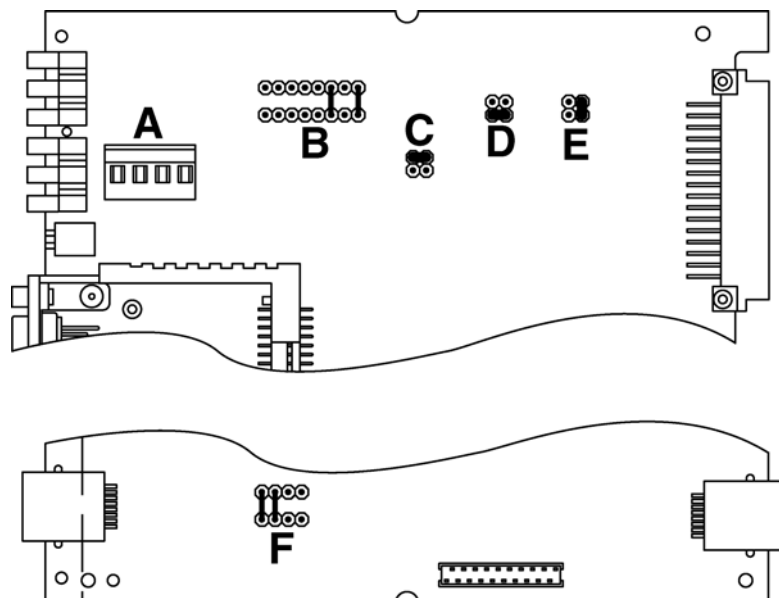

Fig. 2.32 Jumper settings: HTU desktop unit supplied remotely
6. Set the jumpers according to Chapter 2.6.4, Fig. 2.32 to remote supply (additional jumpers are included with desktop unit NTU)